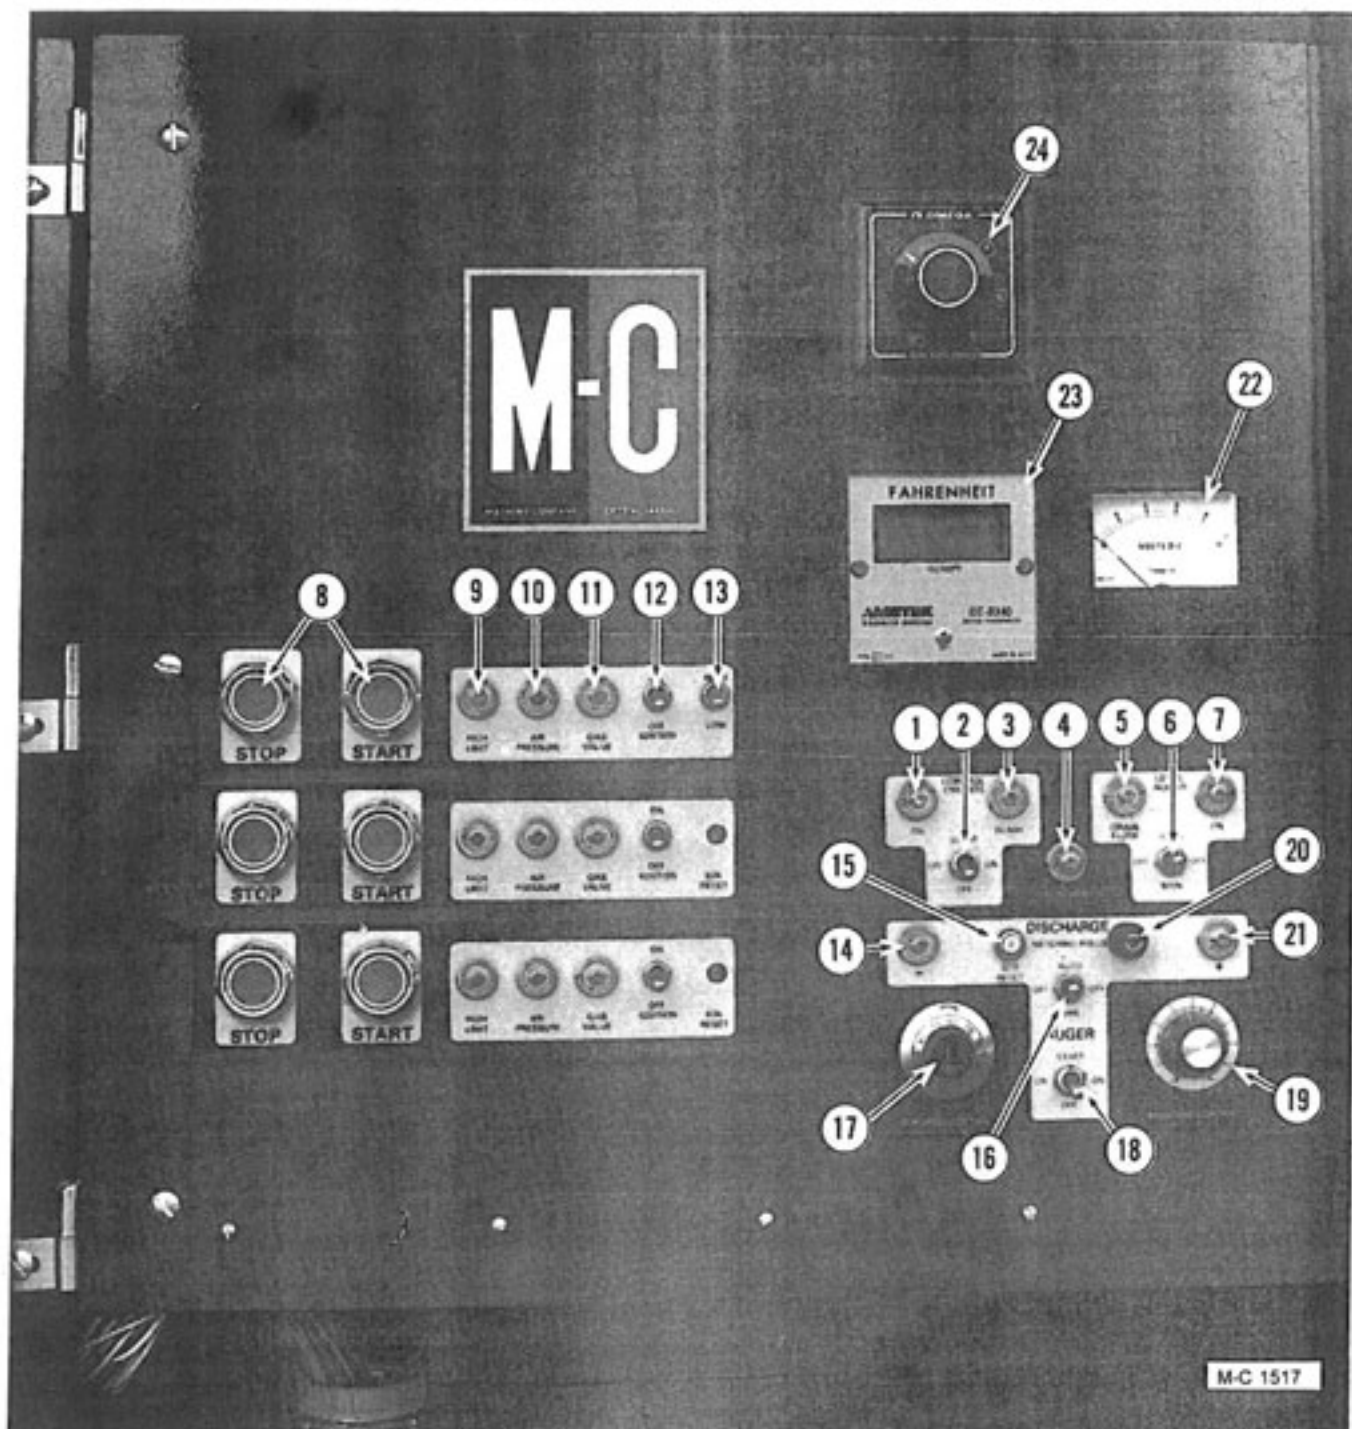

Figure 3 - Remote Cabinet Control Panel Lights, Switches and Controls (Model 1080 shown)
1. Flip all of the toggle switches on the control panel(s) to the OFF position, see Figure 3.